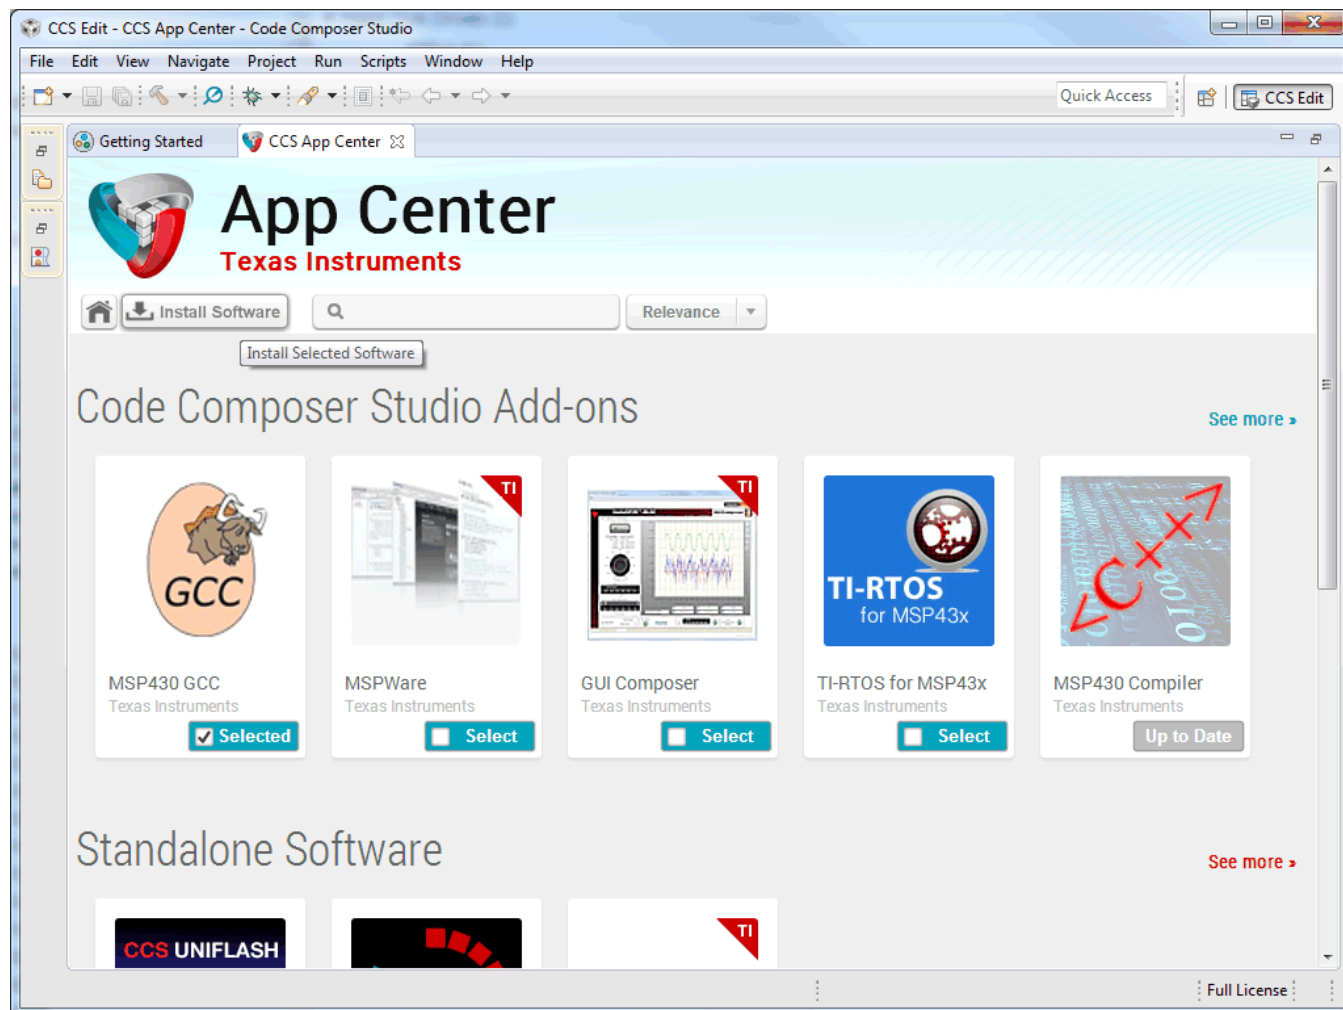

Figure 3. Installing MSP430 GCC Through CCS Apps Center
2. If CCS is already installed without MSP430 GCC, MSP430 GCC can be added at a later time through the CCS Apps Center (see Figure 3).